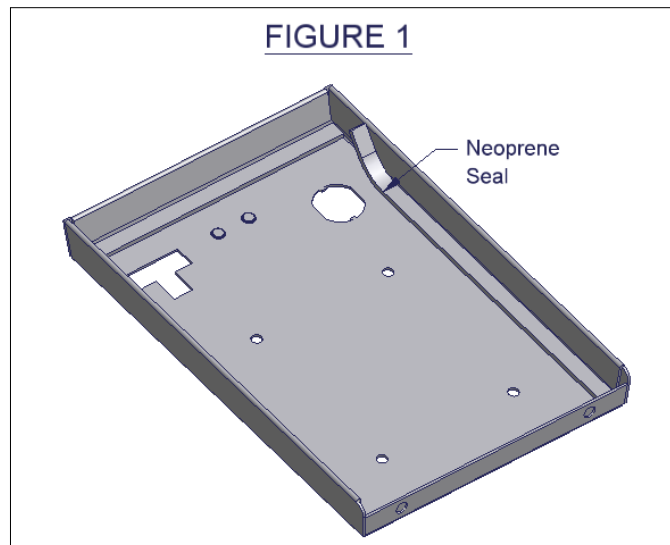
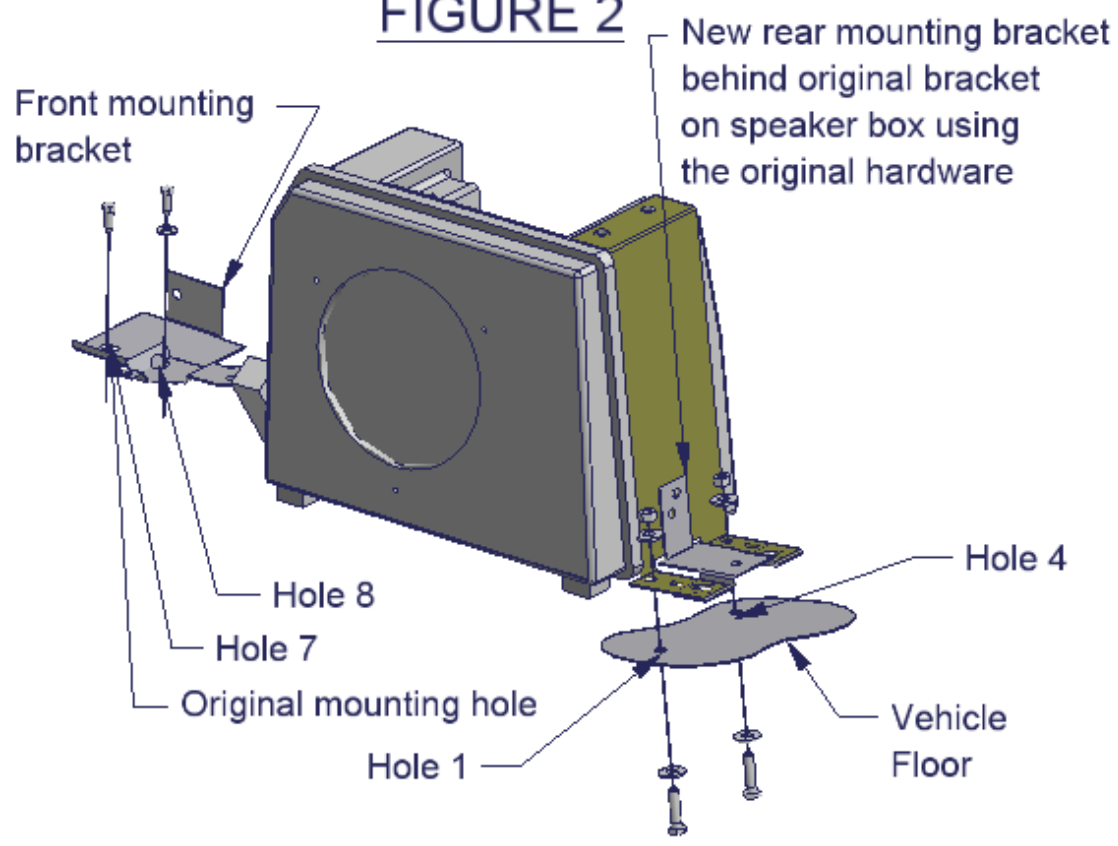

FIGURE 2
FIGURE 3
17. Install the front mounting bracket to original mounting hole under the factory front drink holder using a 1/4-20 x 3/4" self tapping screw. (HOLE 7 IN FIGURE 2)
21. Drill out the (2) original consoles rear holes to size 3/8". (HOLES 1 AND 4, SEE FIGURE 2) **Be sure to inspect under the vehicle to ensure nothing was damaged by the drill bit.**
If holes (1 AND 4 IN FIGURE 2) are not already in the floor follow these instructions
2. Place the Tuffy console in the vehicle being careful not to tear the seats. Line up hole 11 (SEE FIGURE 5) with the hole in the front bracket previously mounted and line up hole 12 (SEE FIGURE 3) in the front shift lever console with the existing mounting holes. Make sure the Tuffy console is centered between the seats and flush against the front shifter console.
3. Make a mark on the floor corresponding with holes 1 and 4 (SEE FIGURE 2).
5. Drill out the (2) marked spots to 3/8". **Be sure to inspect under the vehicle to ensure nothing was damaged by the drill bit.**
22. Using (2) 5/16 x 1 1/4 Bolts, (4) 5/16 Washers, and (2) 5/16 Locknuts, pushing the bolts up from under the vehicle through holes 1 and 4 (SEE FIGURE 2) fasten down the rear-mounting bracket.
23. Attach the new rear drink holder to the Tuffy console using (2) 10-32 x 1/2 screws, (2) #10 washers, and (2) 10-32 locknuts.
25. If applicable, install your stereo or other electronics in the console and connect all the required wires. The rear of the stereo can be fastened to the stereo support strap, which is fastened to the console using a 10-32 locknut and washer. (SEE FIGURE 3 DETAIL C) (Consult electronics owners manual for connections)
27. Attach the front shift lever console to the stereo console by sliding the slots in the front of the stereo console around the (2) 1/4-20x3/4" bolts. If the bolts are accessible tighten them until they are snug. (SEE FIGURE 3)
29. Attach the new rear drink holder to the Tuffy console using (2) 10-32 x 1/2 screws, (2) #10 washers, and (2) 10-32 locknuts.
30. Mount the new rear-mounting bracket to the speaker box. To do this remove the screws holding the original rear bracket to the speaker box, place the new mounting bracket between the speaker box and the original rear bracket and fasten with the original hardware. (Be sure to reuse the original rear bracket in conjunction with the new rear mounting bracket) (See Figure 2)
31. Drill out the (2) original consoles rear holes to size 3/8". (HOLES 1 AND 4, SEE FIGURE 2) **Be sure to inspect under the vehicle to ensure nothing was damaged by the drill bit. If these holes (1 AND 4 IN FIGURE 2) are not already in the floor perform the next step to locate the front of the speaker box. Center the speaker box between the seats, mark the holes 1 and 4 (SEE FIGURE 2), and then come back to this step for drilling.**
32. Fasten down the front of the speaker box through hole 8 (SEE FIGURE 2) using (1) 1/4-20 x 3/4" Bolt, (2) 5/16" Washers, and (1) 1/4-20 Nut.
33. Using (2) 5/16 x 1 1/4 Bolts, (4) 5/16 Washers, and (2) 5/16 Locknuts, push the bolts up from under the vehicle through Holes 1 and 4 (SEE FIGURE 2) fasten down the rear mounting bracket.
34. If applicable, install your stereo or other electronics in the console and connect all the required wires. The rear of the stereo can be fastened to the stereo support strap, which is fastened to the console using a 10-32 locknut and washer. (SEE FIGURE 3 DETAIL C) (Consult electronics owners manual for connections)
36. Attach the front shift lever console to the stereo console by sliding the slots in the front of the stereo console around the (2) 1/4-20x3/4" bolts. If the bolts are accessible tighten them until they are snug. (SEE FIGURE 3)
38. Fasten the Tuffy console to the speaker box using (2) 8 x 1 1/4" Panhead Phillips screws (HOLE 13 AND 14, SEE FIGURE 5) and (3) 8 x 5/8" Panhead Philips screws. (HOLES 15, 16, AND 17, SEE FIGURE 3)
41. Reinstall the original screw or use a 1/4 x 3/4" Tapping screw in the front shifter console under the shift boot and insert the shift boot back into its original position. (HOLE 12, SEE FIGURE 3)